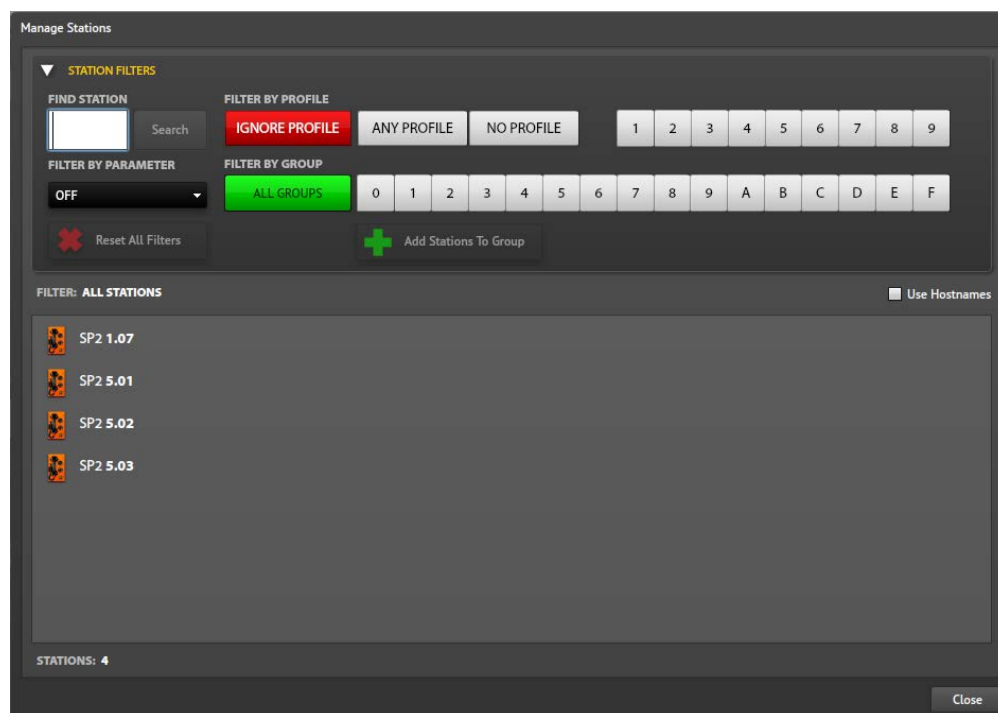

Figure 24. Manage Stations Screen
**Station List Button**—opens the **MANAGE STATIONS** screen (see Figure 24). This screen displays filtered lists of station identifiers in the SP2 mutual configuration. All stations in the configuration appear in the list of stations when no filter is applied. The list displays the SP2 stations with the **UNIT** parameter preceding the station identifier. Double click any station in the list to open the **STATION VIEW** pane for that station.